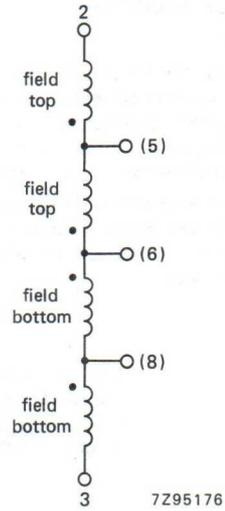

Fig. 2b Field coils.
**Field deflection coils**, series connected (Fig. 2b), terminals 2 and 3